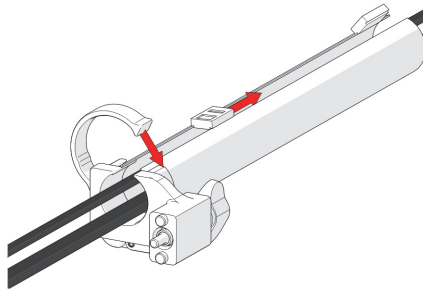

Figure 2-119 Zip to close
2. As you place the cable in the tube, follow along zipping the tube closed (see Figure 2-119 on page 123).